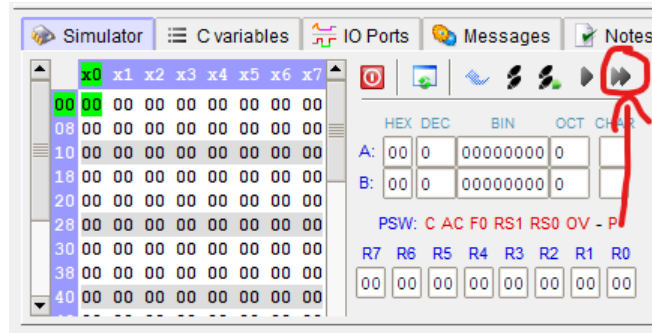

Figure 2: How to start Simulation in MCU 8051 IDE Simulator
- See Figure 2; you can start the simulation by clicking on the sign with the red arrow. It takes some time to complete the process. When it finishes, you can see results on the registers.